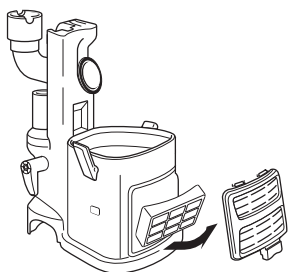

Fig. 21
- 1 Remove the filter cover from the front of the vacuum by lifting the tab to pull the cover away from the vacuum. (Fig. 21)